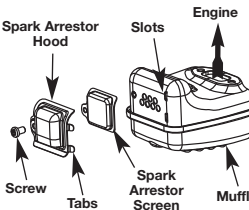

Fig. 39
2. Locate the muffler, but do not remove it. Find the screw on the bottom of the muffler (Fig. 39). Remove the screw using either a torx #20 or flat blade screwdriver.